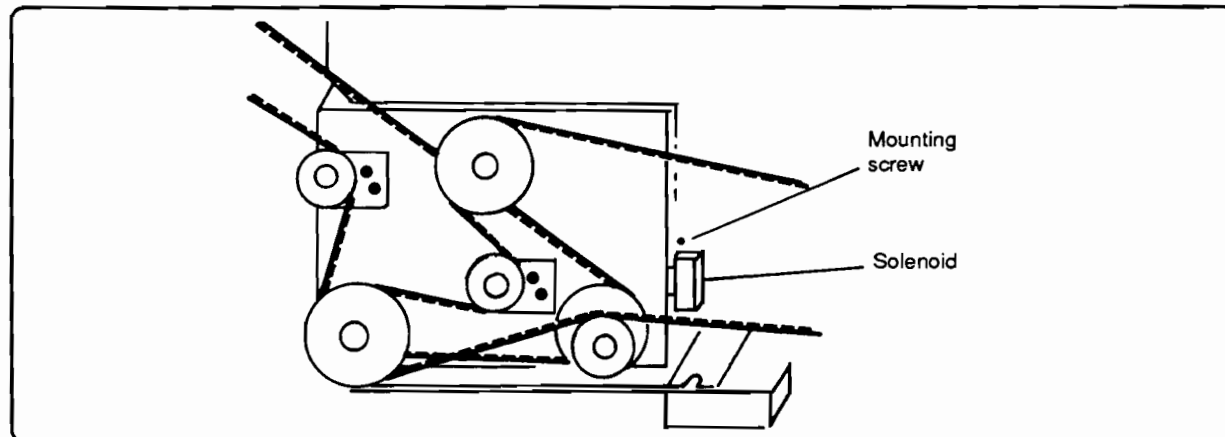

Figure 6-149. Duplex/Separation Unit Removal
3. Remove the three screws securing the "L" shaped cover panel behind the Duplex transmission and remove the panel (Figure 6-149).
If the screw on the right end of the Duplex/Separation Assembly is directly below the solenoid (Figure 6-149), remove the solenoid first (one screw). When replacing the Duplex/Separation Unit, do not use this mounting screw location; use the alternate screw location toward the back of the printer instead (this is a slot instead of a hole in the base of the assembly).